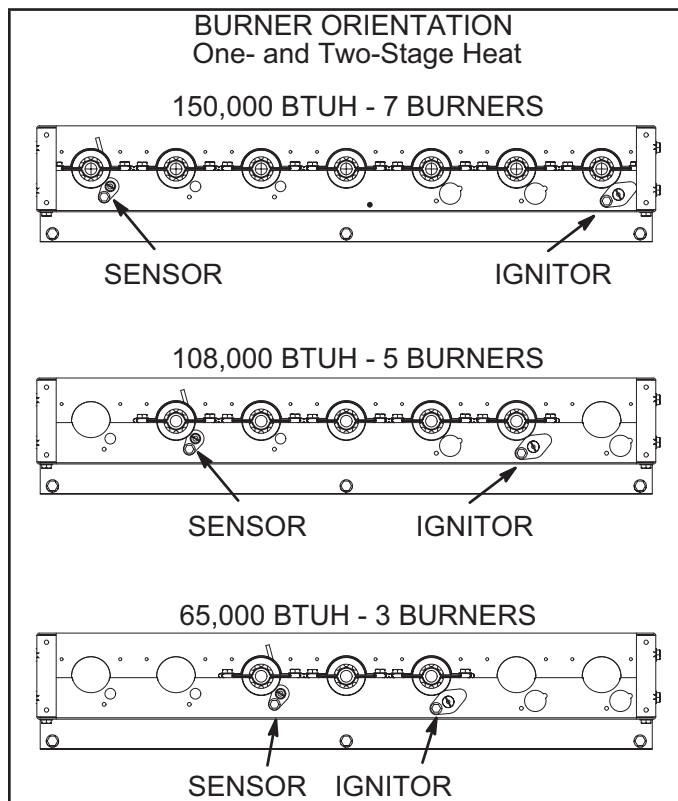

FIGURE 35
- 6 - Replace burners and screws securing burner. See FIGURE 35.